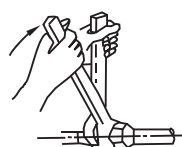

Fig.7-3
- Put the connecting tubing at the proper position, wrench the nuts with hands then fasten it with a wrench. (Refer to Fig.7-3)